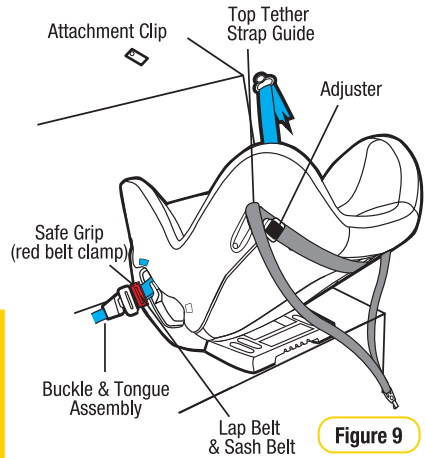

Figure 9
Step 9: Locate the adjuster at the side of the restraint and secure using the Top Tether Strap Guide (refer Figure 9 & 10).